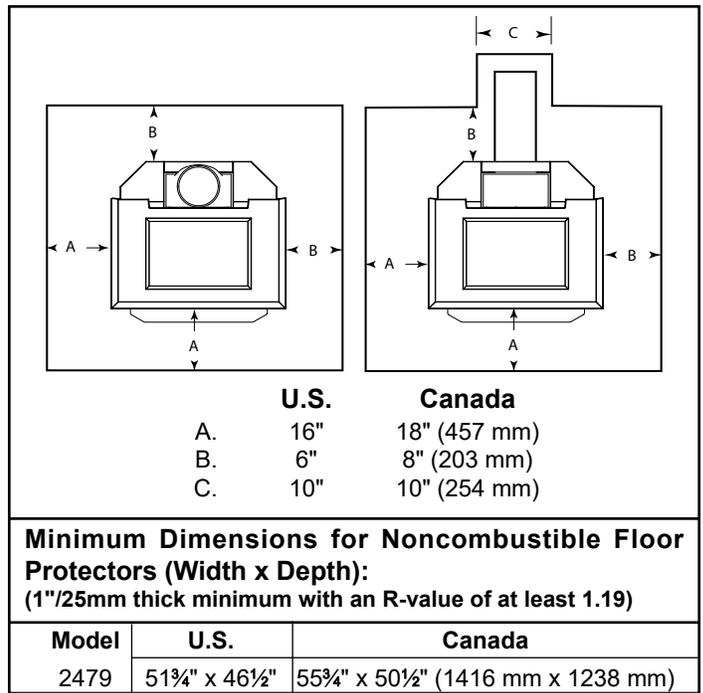

Figure 12 - Be sure to follow exactly the minimum floor protection requirements on all four sides of the stove.
U.S. Installations: The floor protector is required under the stove and must extend at least 16" from the front and left (loading door) side of the stove, and at least 6" from the right side and rear. (Figure 12)
In Canada: a noncombustible floor protector is required under the heater also. The floor protector must extend 18" (457mm) from the front and left (loading door) side of the stove, and at least 8" (203 mm) from the right side and rear. (Figure 12)